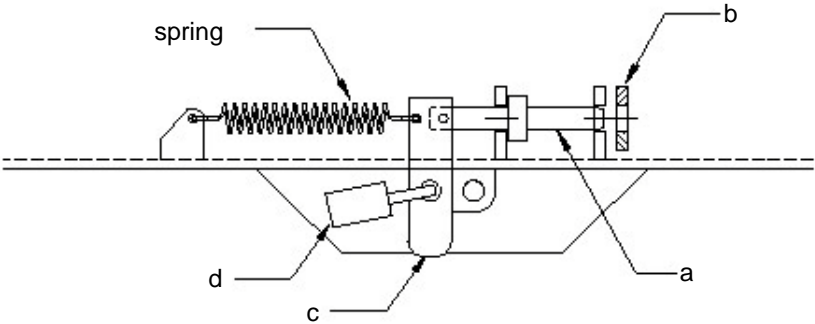

Figure 4
Inside view — the cam lock lever (D) secures the door tight to the gas seal by means of tightening against the cam plate. The drawing in fig. 4 depicts the latch lever in the open or unlocked position.